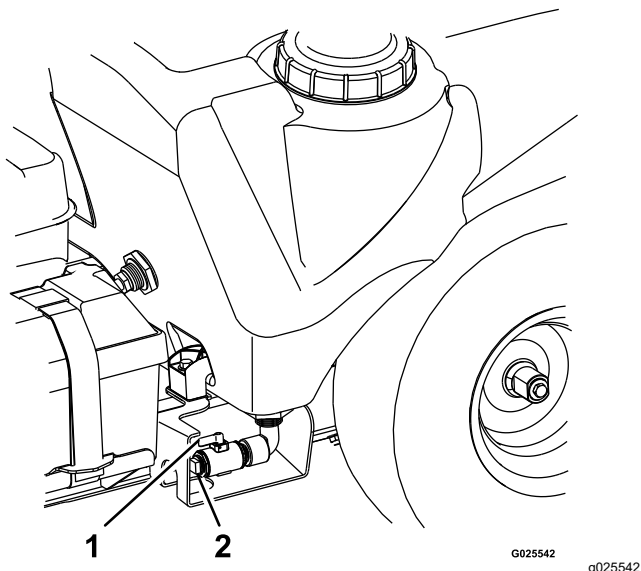

Figure 52
2. Remove the plug from the drain valve for the sprayer tank (Figure 52).
5. Rotate the handle for the drain valve clockwise 90° to drain the tank (Figure 52).
7. Close the tank-drain valve, remove the drain hose, and install the drain plug into the valve (Figure 52).